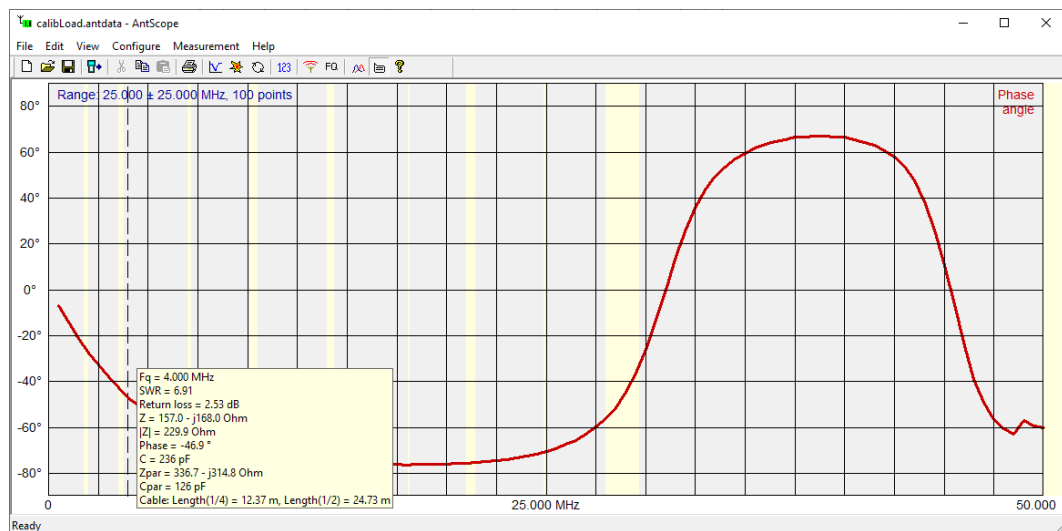

Figure 9-43: AntScope measurement - AdaptorOnly
2. Click the 'Start/Stop Measurement' button  to start a measurement as shown in Figure 9-43.
2. Click the ‘Start/Stop Measurement’ button  to start a measurement as shown in Figure 9-43.